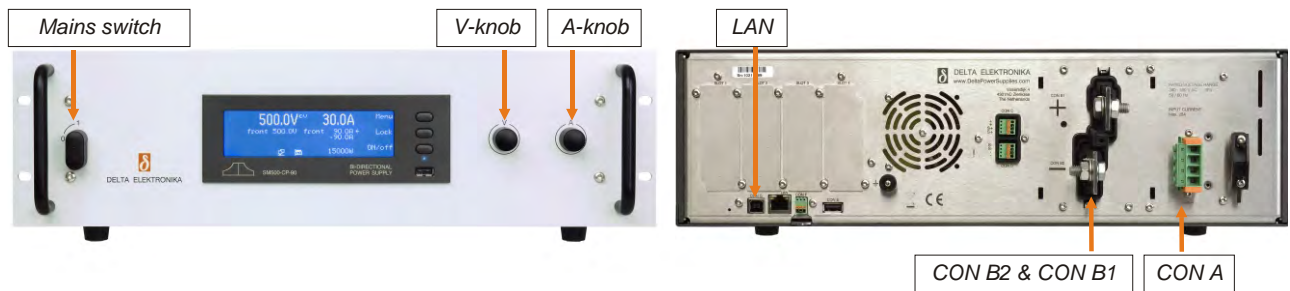

fig. 3 - 1
- Use the included 4-pole header with the markings L1, L2, L3, PE for connecting the wire to the unit (see fig. 3 - 1). The mounting torque for the header terminals is 0.6 Nm.